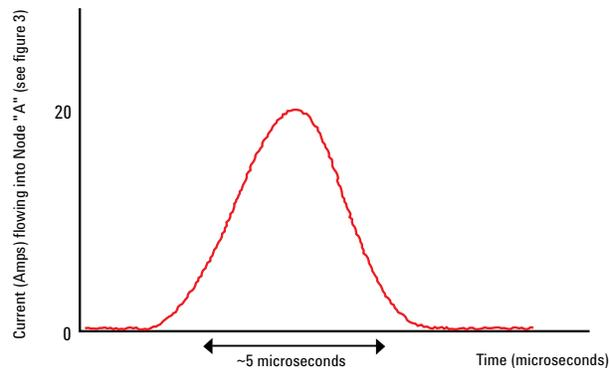

Figure 8: Solenoid current profile with working smart driver when load is shorted
Verifying that the smart driver responds appropriately to a short detection may require analog to digital conversion. Two facts should be verified: (1) the  $\mu\text{C}$  registers an over current condition when the solenoid load is shorted; (2) the smart driver reacted appropriately by shutting down to prevent damage. Verifying these facts requires knowledge of the peak and duration of the solenoid current profile, as seen in Figure 8. Finally, interrogation via the serial link will determine if the ECM was informed of an over current condition.